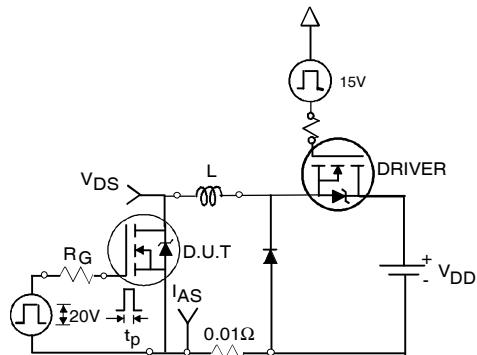

Fig 12a. Unclamped Inductive Test Circuit
- ③ $I_{SD} \leq 125\text{A}$, $di/dt \leq 260\text{A}/\mu\text{s}$, $V_{DD} \leq V_{(\text{BR})\text{DSS}}$, $T_J \leq 175^\circ\text{C}$
- ④ Pulse width $\leq 400\mu\text{s}$; duty cycle $\leq 2\%$.
- ⑤ C_{oss} eff. is a fixed capacitance that gives the same charging time as C_{oss} while V_{DS} is rising from 0 to 80% V_{DSS} .
- ⑥ Calculated continuous current based on maximum allowable junction temperature. Package limitation current is 90A.
- ⑦ Limited by $T_{J\max}$, see Fig.12a, 12b, 15, 16 for typical repetitive avalanche performance.
3. Equation below based on circuit and waveforms shown in Figures 12a, 12b.